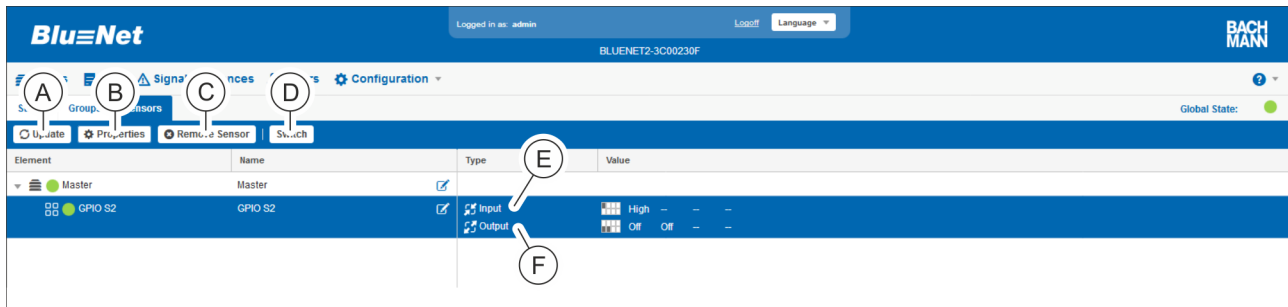

Fig. 114: “Status” menu – “Sensors” tab (GPIO module)
3. ➤ Select the GPIO module (Fig. 114/Ⓔ).
4. ➤ Click the “Properties” button (Fig. 114/Ⓔ) to call up the detail view.
1. ➤ In the detail view (Fig. 114/Ⓒ), select the relevant input or output.
1. ➤ Click the “Switch” button (Fig. 114/Ⓐ).